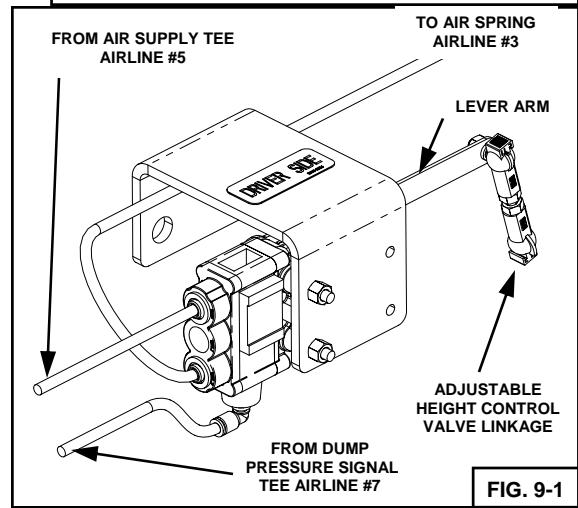

FIG. 9-1
2. Route the Airlines as shown in Figures 9-1, 9-2, 9-3, and 9-4.